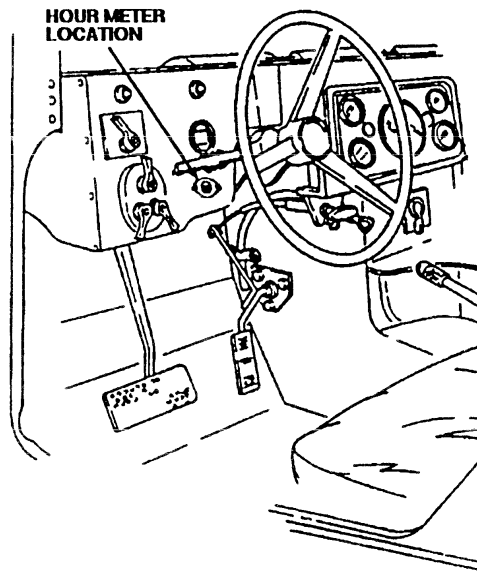

FIGURE 4-1
A. at commander's discretion units can add an hourmeter to the dash board just to the right of the light switch and under the air restriction indicator. (see figure 4-1) Because there's not much room on the dash, the meter should be no more than 2 1/4 in. diameter. Also, the meter needs to be hermetically sealed due to the deep water fording mission requirements.